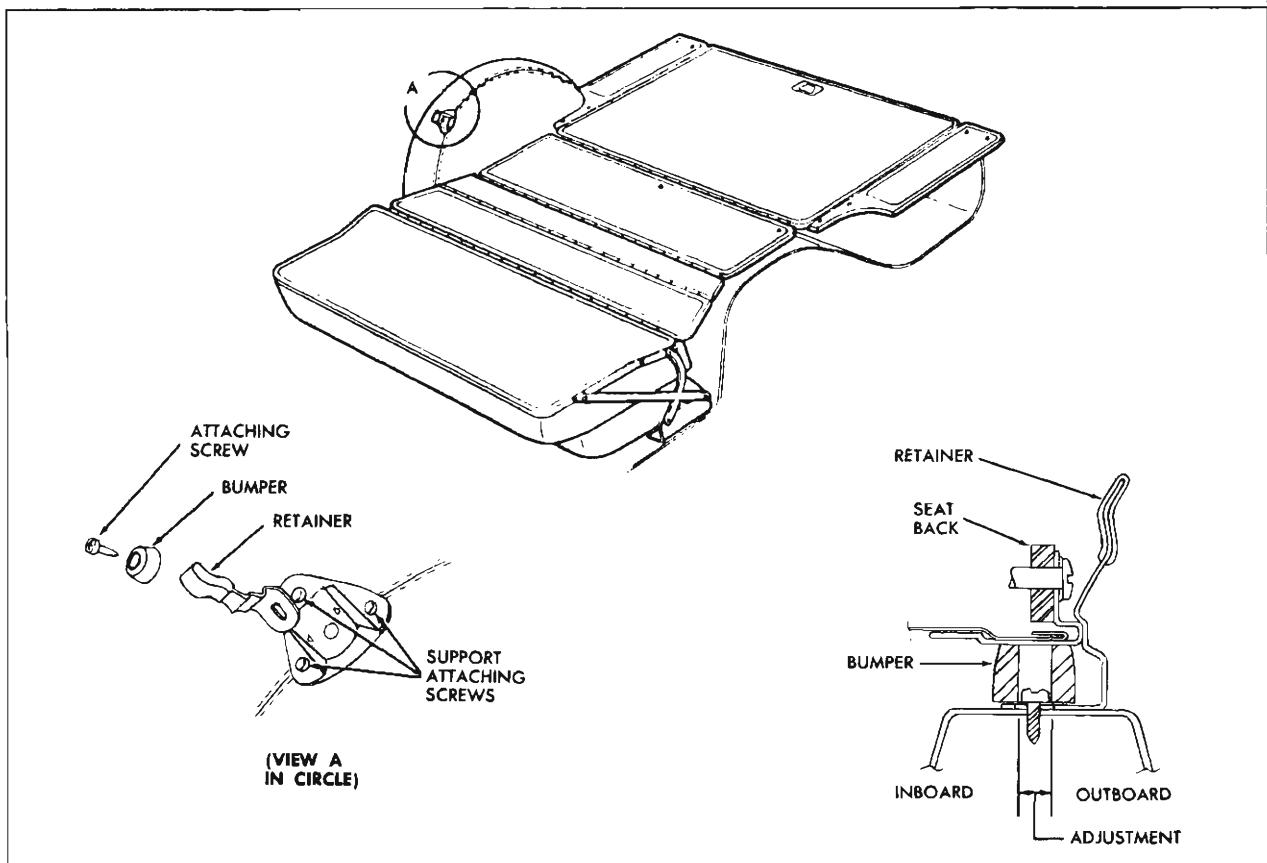

Fig. 17-11 Folding Rear Seat Back Bumper, Retainer and Support
1. With folding rear seat back in "down" position, remove screw shown in View "A", Fig. 17-11, and remove bumper and retainer from wheelhouse support.
2. Remove three (3) screws shown in View "A", Fig. 17-11 and remove support from wheelhouse assembly.
NOTE: The folding rear seat back retainer is adjustable inboard or outboard (See Fig. 17-11). To adjust retainer, raise folding rear seat back to "up" position and check retainer tension. Lower folding seat back and loosen retainer attaching screw. Adjust retainer inboard or outboard as required then tighten attaching screw. Recheck